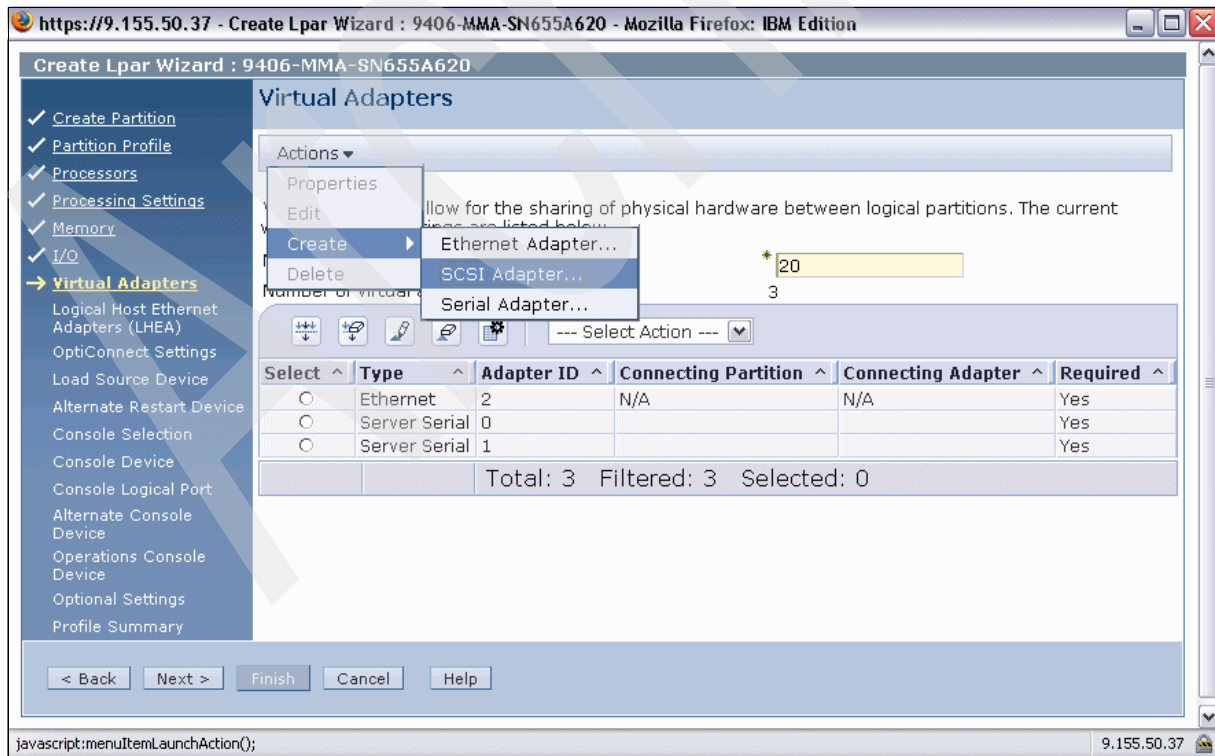

Figure 6-30 Create LPAR Virtual Adapters dialog
- The Virtual Adapters dialog now shows the newly created Ethernet adapter and we select **Actions** → **Create** → **SCSI Adapter** (as shown in Figure 6-30) to create virtual SCSI client adapters on our IBM i client partition used for connecting to the corresponding VIOS virtual SCSI server adapters.